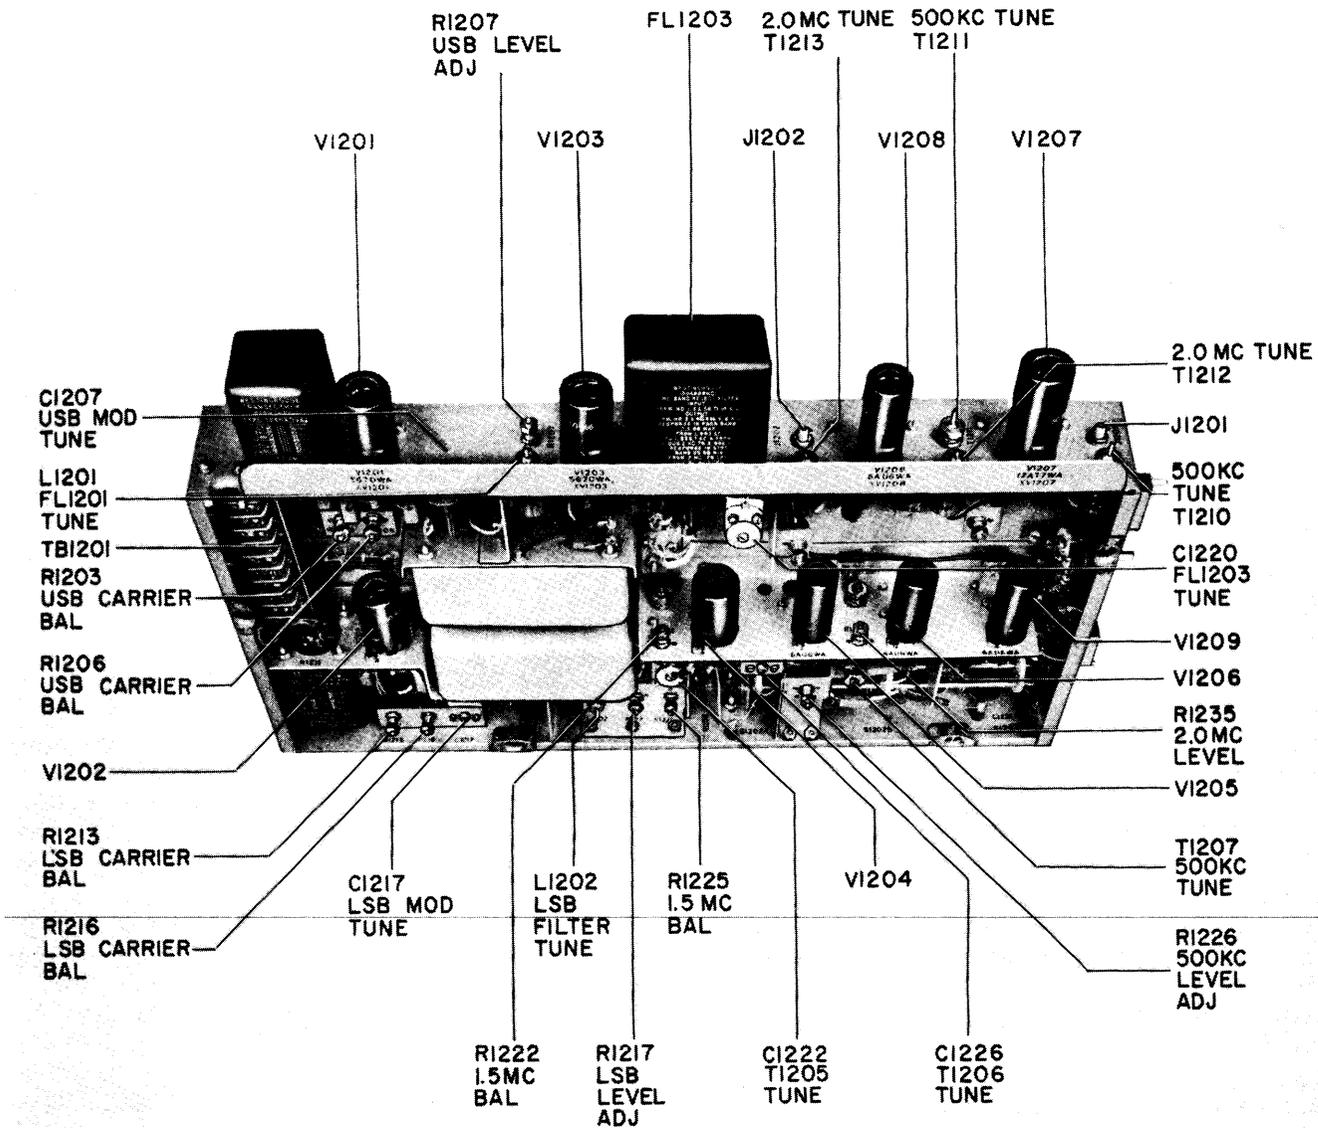

Figure 6-6. Radi Frequency Oscillator O-581/WRT-2 Modulator Chassis Top Oblique View, Electrical Adjustments
Step 1. Check to see that all control settings are as indicated in paragraph 6-2d(2). Pull out the drawer containing Radio Frequency Oscillator O-581/WRT-2 to its extreme limit of travel. Engage the interlock switch. Note that the 2.0-mc modulator chassis is located on the lefthand side of the exposed unit. Remove the four quick-disconnect screw-type fasteners holding the cover plate to the lefthand side of the modulator chassis. Remove P136 from J1202 and connect a 100-ohm, 1/2-watt resistor between the center conductor of J1202 and ground. In the steps to follow, refer to figure 6-6 and 6-7 for location of adjustments.